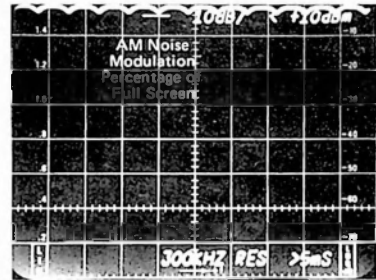

Fig. 27. Modulated Am Noise Measurement
- Check for modulation noise by feeding the transmitter 50 or 60 Hz at 100% modulation. Use the ZERO SPAN mode and 300 kHz RESOLUTION. Note any modulation components on the carrier tips as shown in figure 27.